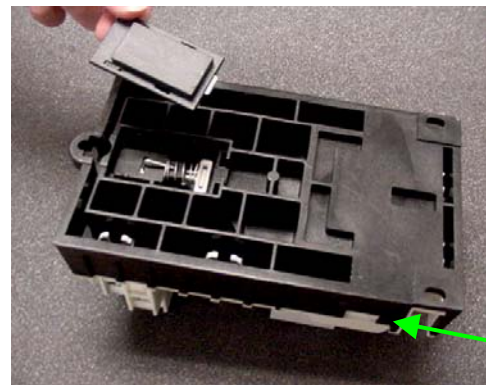

Figure 5 – **Caution:** Once latch cover has been installed, it may not be removed. Ensure latch is properly installed prior to installing the latch cover.
2. Mount the latch as shown in Figure 5.
4. Mount the latch cover as shown in Figure 5.
6. Operate contactor manually, using manual operation tabs (See Figure 5) on side, prior to installing cover to insure correct installation.